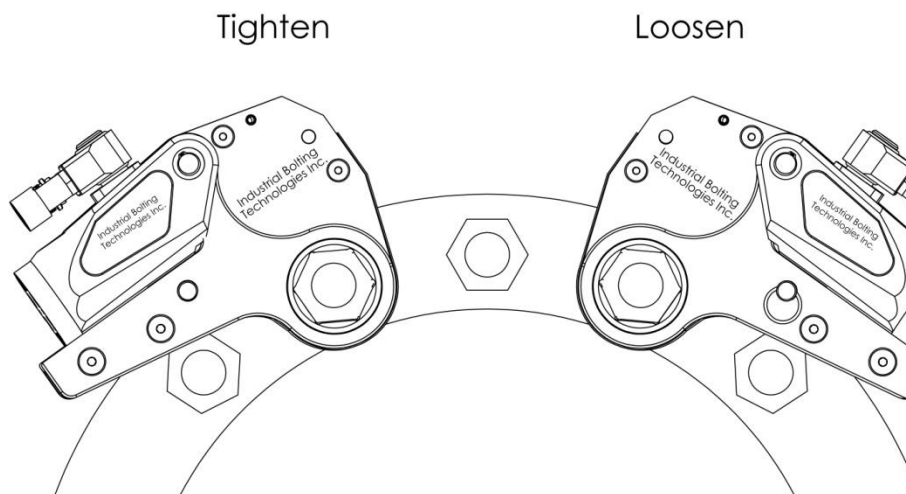

Figure 3
2. Reposition the tool so the reaction surface abuts squarely on a solid reaction point. Refer to Figure 3.